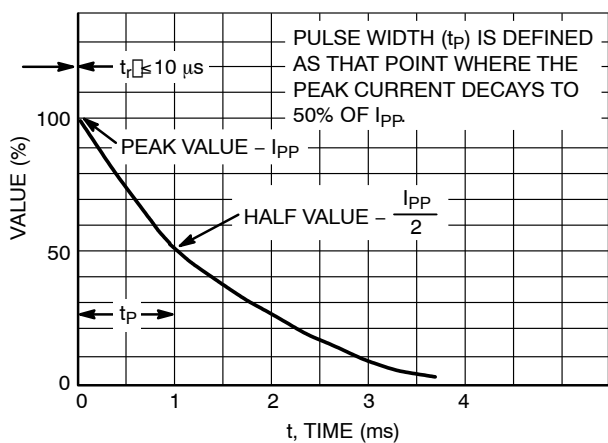
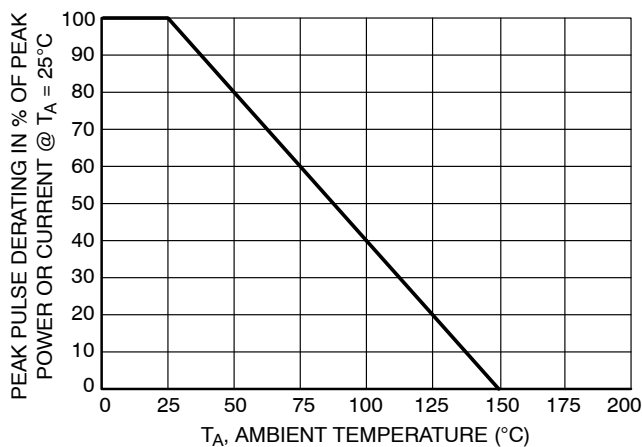

Figure 5. Pulse Waveform
Figure 6. Pulse Derating Curve
- Peak Power – 40 W @ 1.0 ms (Unidirectional), per Figure 5 Waveform
1. Non-repetitive current pulse per Figure 5 and derate above  $T_A = 25^\circ\text{C}$  per Figure 6.
4. Surge current waveform per Figure 5 and derate per Figure 6